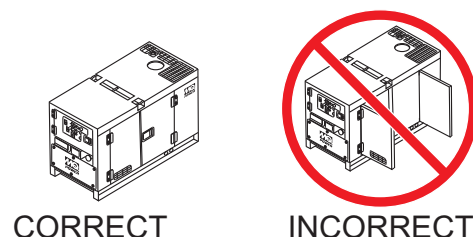

Figure 36. Engine Enclosure Doors
5. Close all engine enclosure doors (Figure 36).